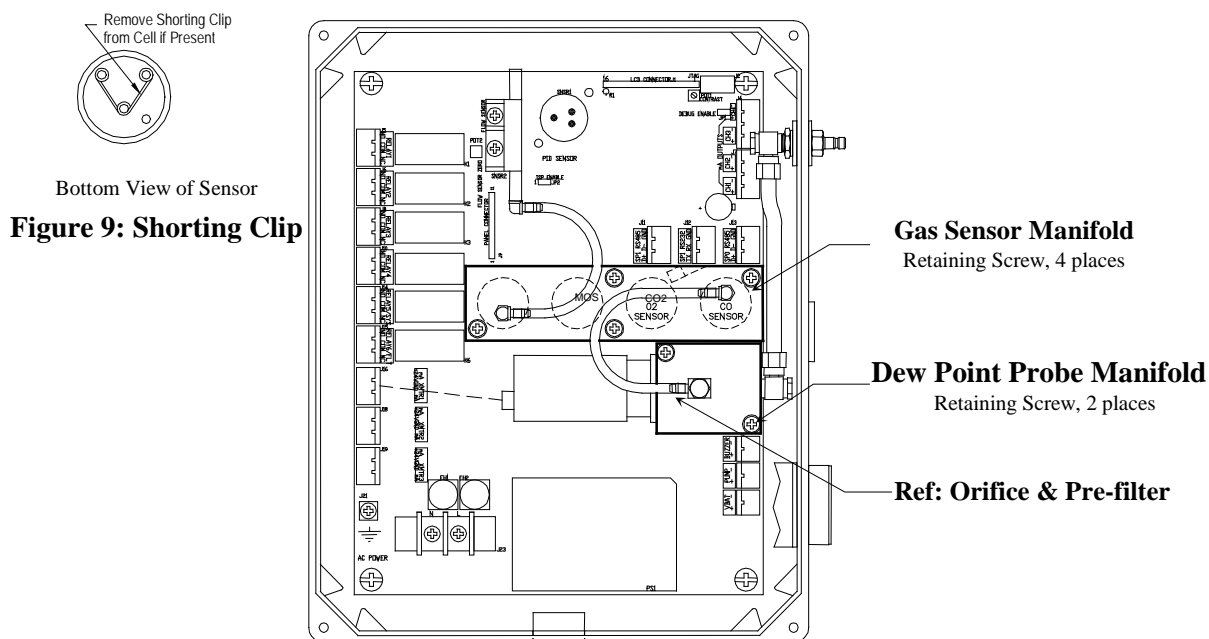

Figure 10: Location of Gas Sensor and Dew Point Manifolds
- Open the display panel and remove the four manifold retaining screws and remove the manifold. See **Figure 10**.